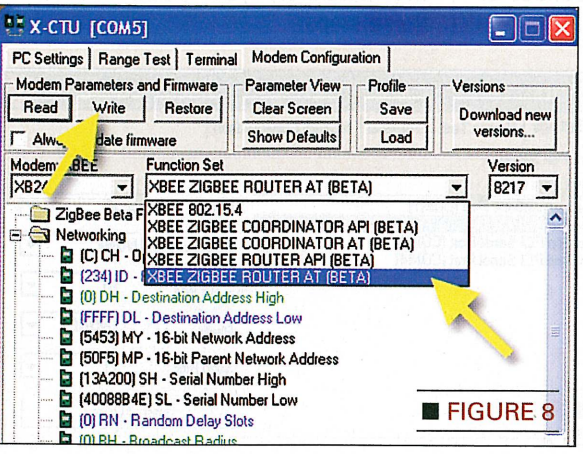

FIGURE 8
- **STEP 6:** Now you need to load the router firmware into all the remaining modules. As before, insert the module into the development board and hit the Read button. I found that after changing the module, the X-CTU software would no longer respond. If this happens, exit the program and restart it. For the routers in the Functions Set field, select the XBEE ZIGBEE ROUTER AT (BETA) setting, and then hit the Write button as shown in Figure 8.